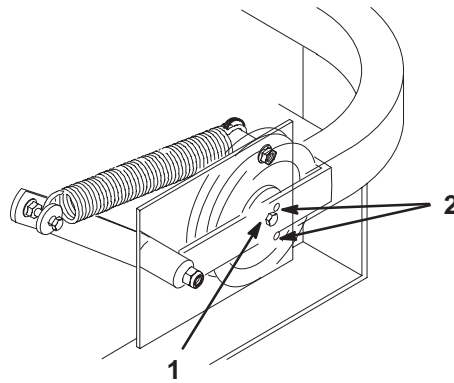

Figure 59
6. Check belt tension. The center bolt of spring loaded idler must be between the two alignment holes in left support plate (Fig 59).
Check position of center bolt in a High Height of Cut. The center bolt must be at or above the lower adjustment hole (Fig 59).
8. Check belt tension again. The center bolt of spring loaded idler must be between the two alignment holes in left support plate (Fig 59). Adjust, if necessary, and tighten all hardware securely.